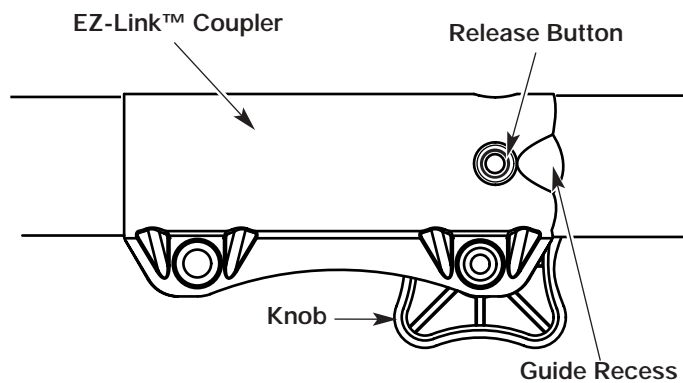

Fig. 6
1. Turn the knob counterclockwise to loosen (Fig. 6).
2. Press and hold the release button (Fig. 6).
1. Turn knob counterclockwise to loosen (Fig. 6).
- NOTE:** Aligning the release button with the guide recess will help installation (Fig. 6).